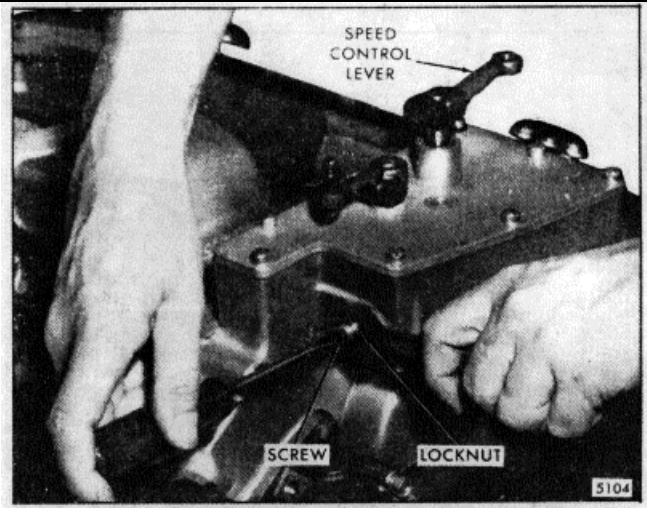

Fig. 9. - Adjusting Buffer Screw
1. With the engine running at normal operating temperature, turn the buffer screw in so it contacts the differential lever as lightly as possible and still eliminates engine roll (Fig. 9).